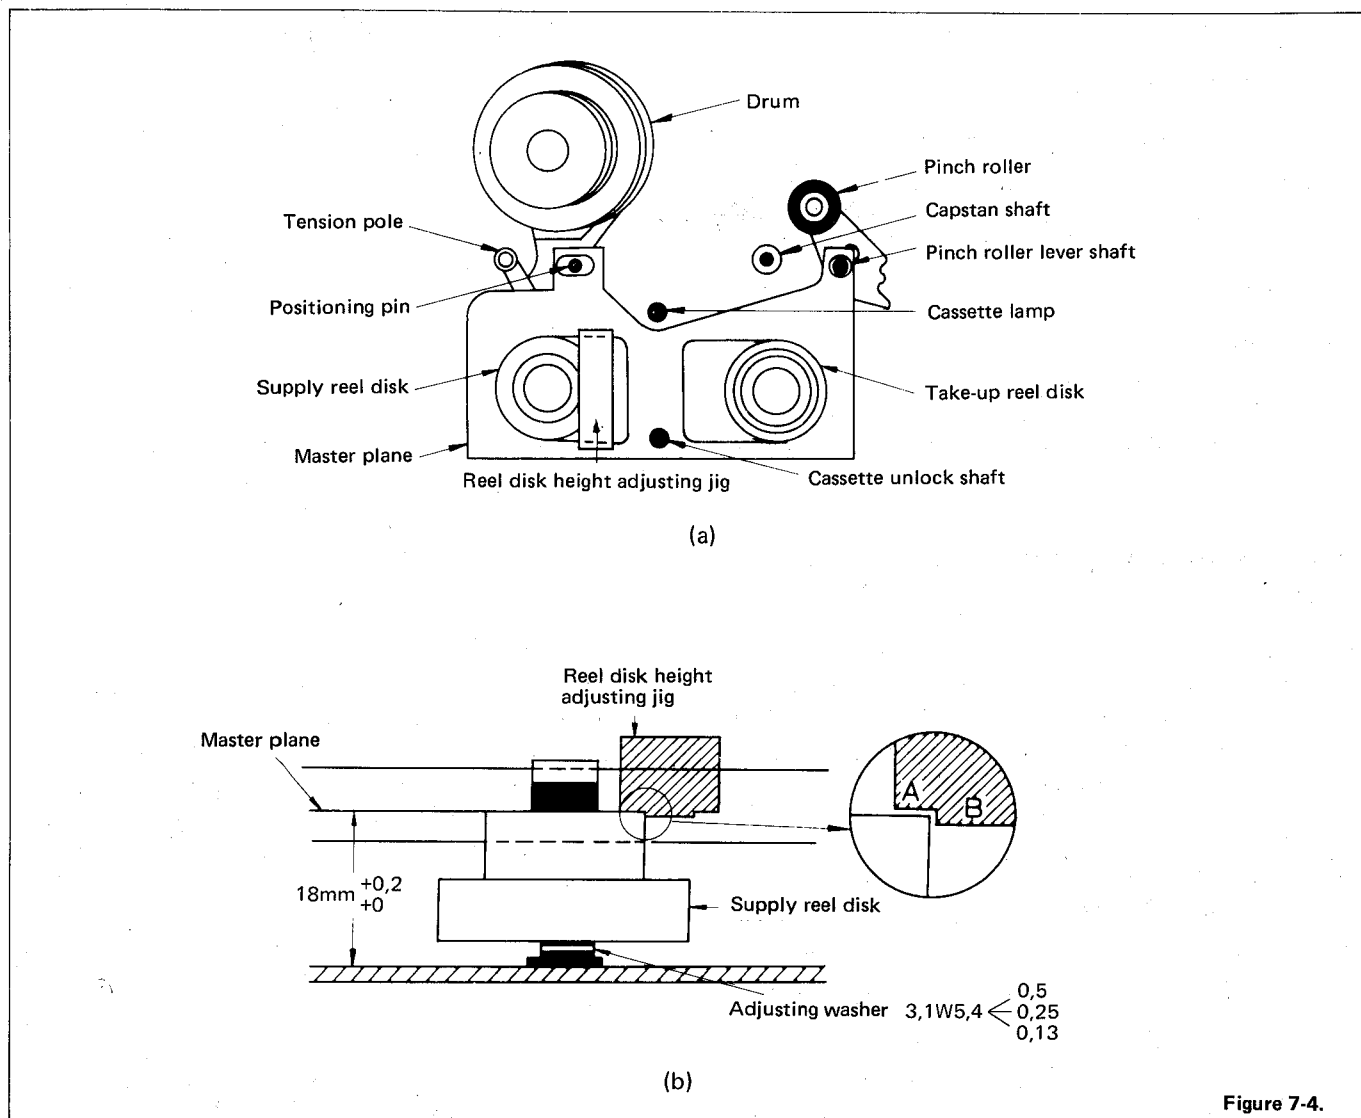

Figure 7-4.
- 1) Remove the cassette housing. Set the master plane in the mechanism as shown in Figure 7-4(a). Use care so that the master plane should not contact the drum.
(see Figure 7-4(b)). If the height is wrong, make adjustment with height-adjusting washer(s). Vertical play should be 0.1–0.5 mm finally.